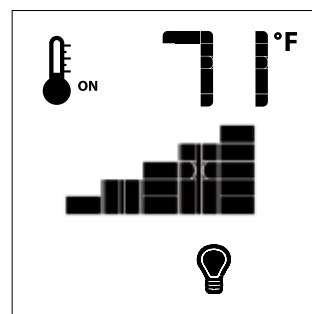

Figure 16
The intensity of the output can be adjusted through six (6) levels. Use the Up/Down Arrow Keys (Fig. 1) adjust the output level (Fig. 16). A single "beep" will confirm reception of the command.